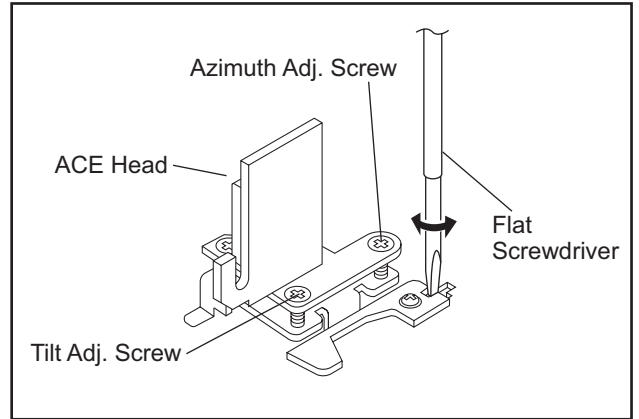

Fig.6
- (4) If creasing or snaking is apparent, adjust the Tilt Adj. Screw of the ACE Head. (Fig. 6)
- (1) Connect the oscilloscope to TP301 (C-PB) and TP503 (CTL) on the Main CBA. Use TP504 (RF-SW) as a trigger.
- (2) Playback the Gray Scale of the Alignment Tape (FL6NS8) and confirm that the PB FM signal is present.
- (3) Set the Tracking Control Circuit to the preset position by pressing "PR +" button and then "▶" button on the unit. (Refer to note on bottom of page 1-34.)
- (4) Use the Flat Screwdriver so that the PB FM signal at TP301 (C-PB) is maximum.(Fig. 6)
- (5) To shift the CTL waveform, press "PR +" or "PR -" button on the remote control unit. Then make sure that the maximum output position of PB FM envelope signal becomes within $\pm 2\text{ms}$ from preset position.